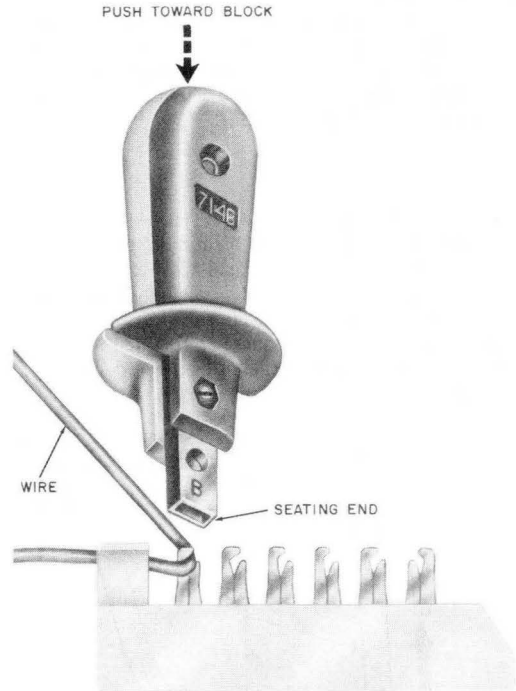

Fig. 5—Preparation for Looping Termination
3.05 To make a **looping termination** on a 66-type connecting block (Fig. 5 and 6), perform the following steps:
Note: The 714B tool is shown in Figures 5, 6, 7, and 8; the D impact tool is used in the same way.
- (1) Select wire to be terminated.
- (2) Work wire into fanning strip.
- (3) Place wire in hook of terminal, using fingers or long-nose pliers.
- (4) Place seating end (cutting end of blade turned into handle) of 714B or D impact tool over terminal (Fig. 5).